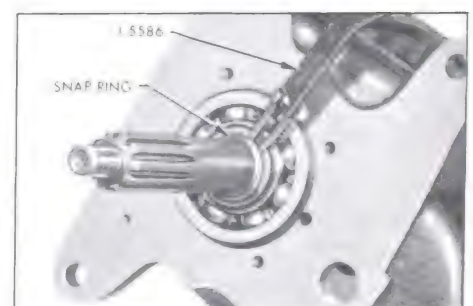

Figure 4-103—Installing Main Drive Gear Snap Ring
24. Secure main drive gear in place by installing main drive gear snap ring in groove provided in main drive gear. See Figure 4-103.